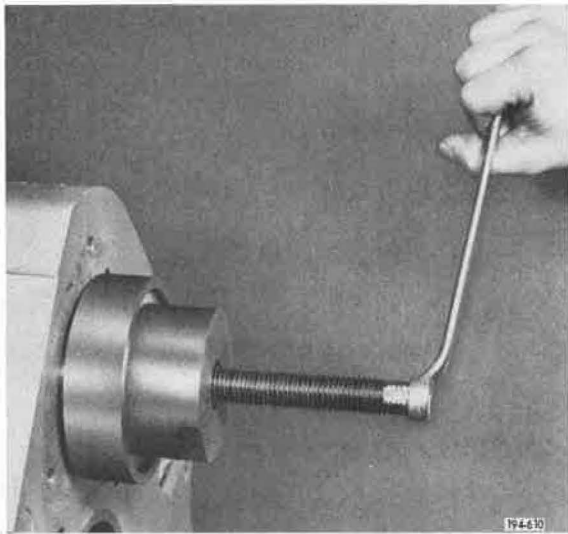

Figure 5-286. Tightening Puller
18. Tighten threaded shaft of the puller until bearing is removed from rear countershaft. See Figures 5-286 and 5-287.